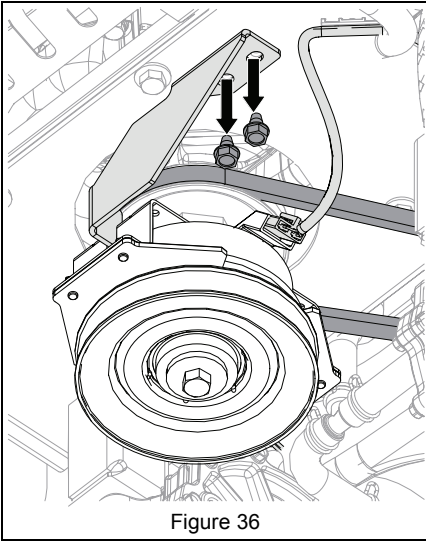

Figure 36
5. Remove hardware securing clutch stop bracket to frame and remove bracket. See Figure 36.